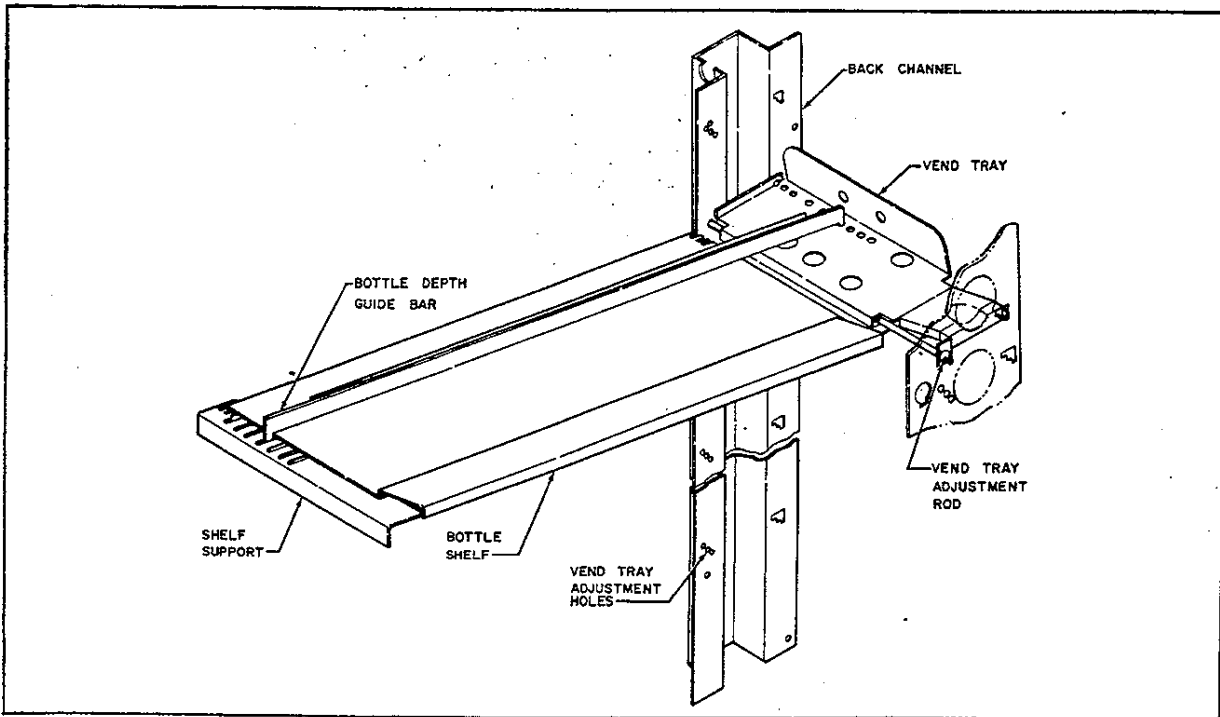
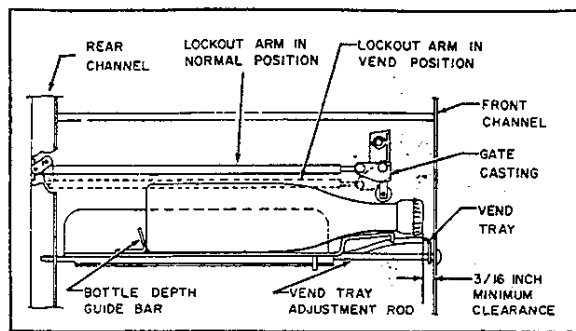

Figure 2-2. Vend Rack and Bottle Shelf Adjustment
Figure 2-3. Bottle Depth Adjustment
2.6 ADJUSTING BOTTLE SHELVES AND BOTTLE DEPTH GUIDE BARS. (See Figure 2-2 and 2-3.)
2.6.2.1 Set each vend tray for diameter of bottle to be vended by inserting vend tray adjustment rod in one of three holes adjacent to bottle vend port as shown in Figure 2-2. Make sure rod enters corresponding hole in channel at rear of vender. Tab at rear of vend tray must seat in corresponding notch of rear channel so vend tray is level. Location of vend tray adjustment rod determines clearance between vend tray and lockout arm as shown in Figure 2-3. Adjustment rod is located correctly when lockout arm will not allow bottle to pass from bottle shelf to vend tray when mechanism is in vend position.
2.6.3.1 Position bottle to be vended on bottle shelf as shown in Figure 2-3, so bottom of bottle is against bottle depth guide bar. Minimum clearance between bottle crown and vend port panel is 3/16 inch. Position bottle depth guide bar in one of seven holes of vend tray that will allow this clearance. Install other end of bottle depth guide bar in corresponding slot in shelf support at opposite side of cooling compartment.
2.6.4.1 Position bottle to be vended on bottle shelf as shown in Figure 2-3. Make sure bottom of bottle butts against bottle depth guide bar. Install bottle shelf tab in one of three bottle shelf slots in vend tray that will permit body of bottle to have full contact with shelf, and so neck of bottle will ride on bottle neck support of shelf. Install other end of shelf in corresponding slot of shelf support at opposite side of cooling compartment.